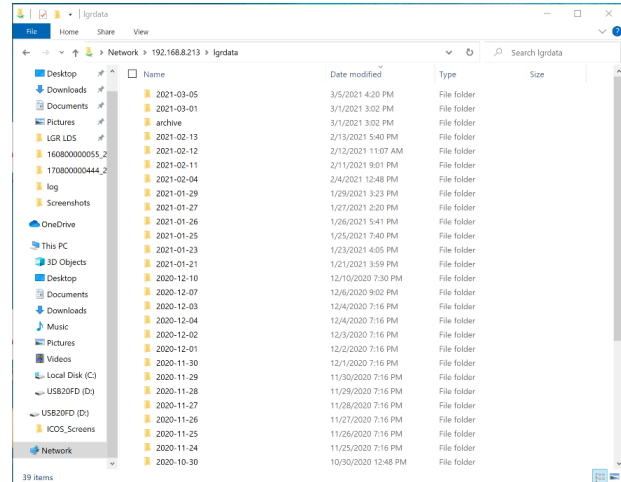

Figure 121 Windows File Explorer Window Showing Data Folders
- 5 Double-click the *lgrdata* folder to show the data folders (data grouped by date) as shown in Figure 121.